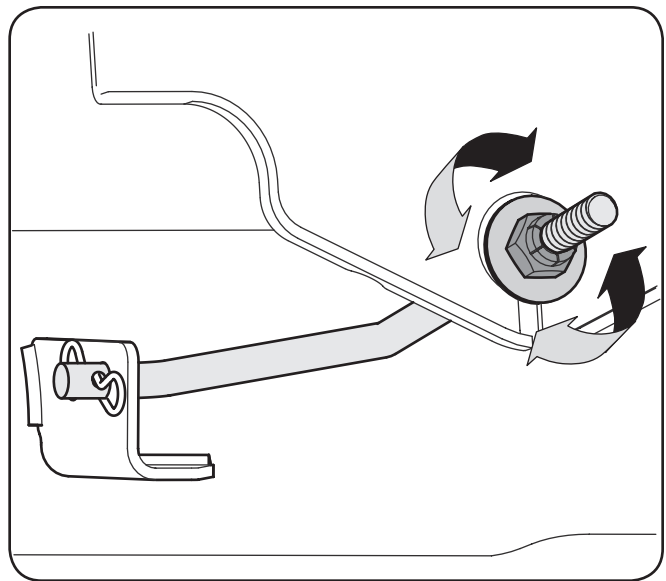

Figure 6-3
3. Locate the flange lock nut on the front side of the stabilizer bracket. See Fig. 6-3. To adjust the deck front to rear: